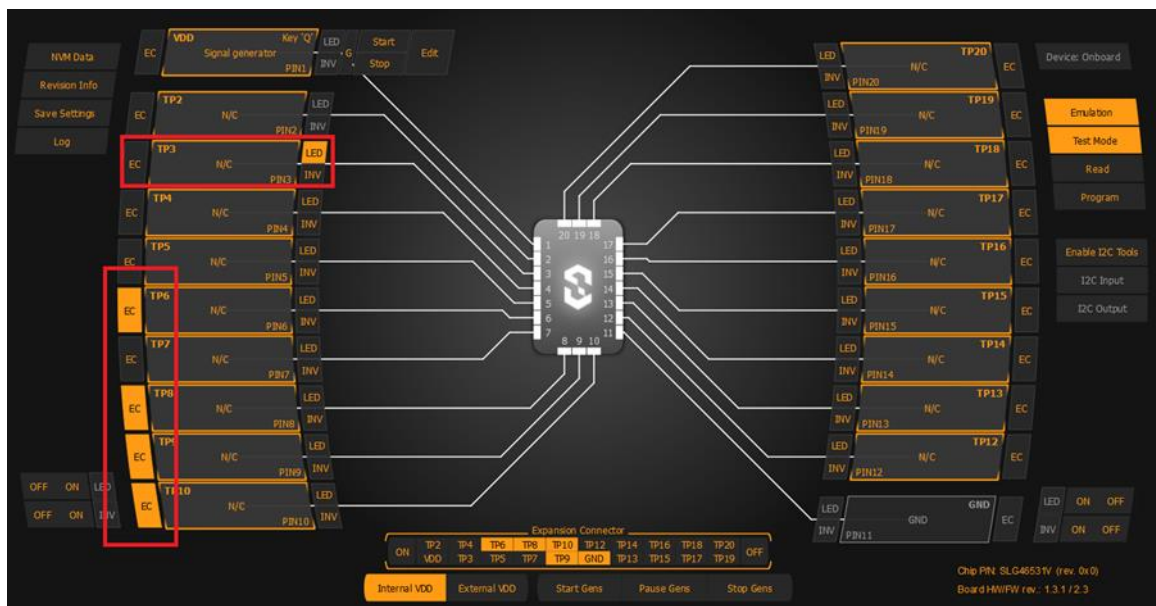

Figure 2(b). GreenPAK Emulator. Enable EC on Pins 6, 8, 9, & 10. Enable LED on Pin 3
Figure 2(a) includes a screen cap of the GreenPAK's block diagram, as well as where to connect the external V_{in} signal. When emulating, be sure to enable the Expansion Connector (EC) on Pins 6, 8, 9, & 10. Also, enable LED on Pin 3 as shown in Figure 2(b).